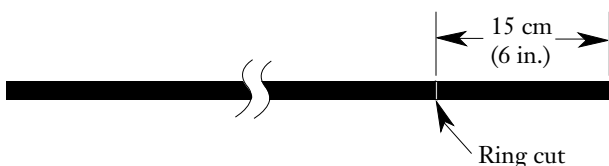

Figure 3
4.2 15 cm (6 in.) from the end of the cable, use the hook blade or cable sheath knife to ring cut the outer sheath (Figure 3). Use care to avoid cutting the rip cords or rovings beneath the sheath.